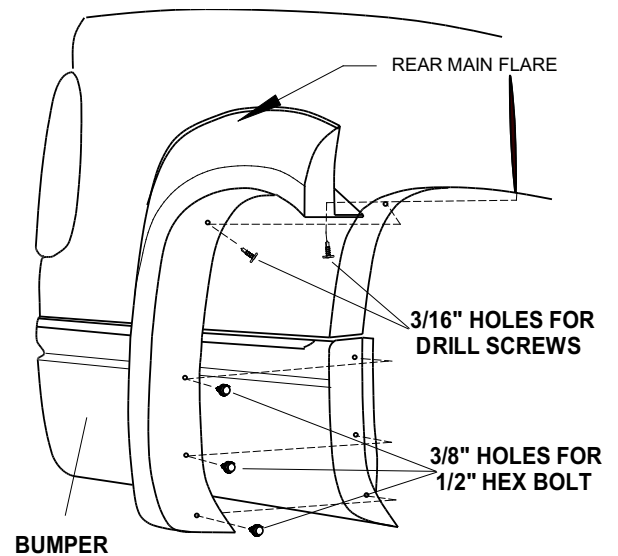

FIGURE 3
- (A) Remove the plastic rivets that hold the rear bumper cap in place by driving the center of the rivet through the head using a punch or a #1 Phillips screw driver. Discard (they will be replaced).
- (B) Drill three 3/8" holes in the rear main flare where it aligns with bumper using the lower three indents formed into the plastic as a guide. See FIGURE 3.
- (C) Drill two 3/16" holes in the flare using the top two indents in the plastic as a guide. See FIGURE 3.
- (D) Line up the holes in flare, bumper, and bumper mounting bracket using a punch or #1 Phillips screw driver. Fasten flare to bumper using supplied 1/2" hex head bolts. **DO NOT OVER TIGHTEN.** See FIGURE 3.
- (E) Align rear main flare with the door seam and wheel well and hold in position.
- (F) While applying slight pressure to the outside of the flare, fasten it to the vehicle with supplied drill screws using the holes in the flare as a guide.